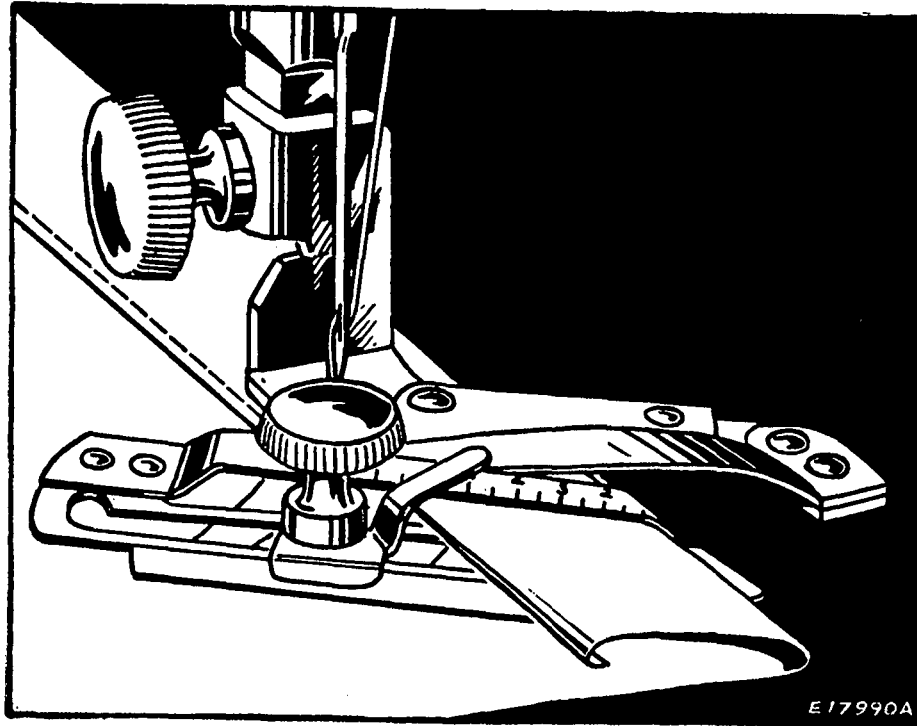

FIG. 42. SHOWING HOW ADJUSTABLE HEMMER IS USED FOR MAKING HEMS UP TO $\frac{15}{16}$ INCH WIDE
- (3) Loosen the thumb screw on the hemmer and move the scale until the pointer registers with the number of the desired width of hem, No. 1 indicating the narrowest hem and No. 8, the widest, then tighten the thumb screw.
- (4) Place the cloth in the hemmer and draw it back and forth until the hem is formed, as shown in **Fig. 42**.
- (5) Draw the end of the hem back under the needle, lower the presser bar and commence to sew.
- (6) Guide sufficient cloth into the hemmer to turn the hem properly.